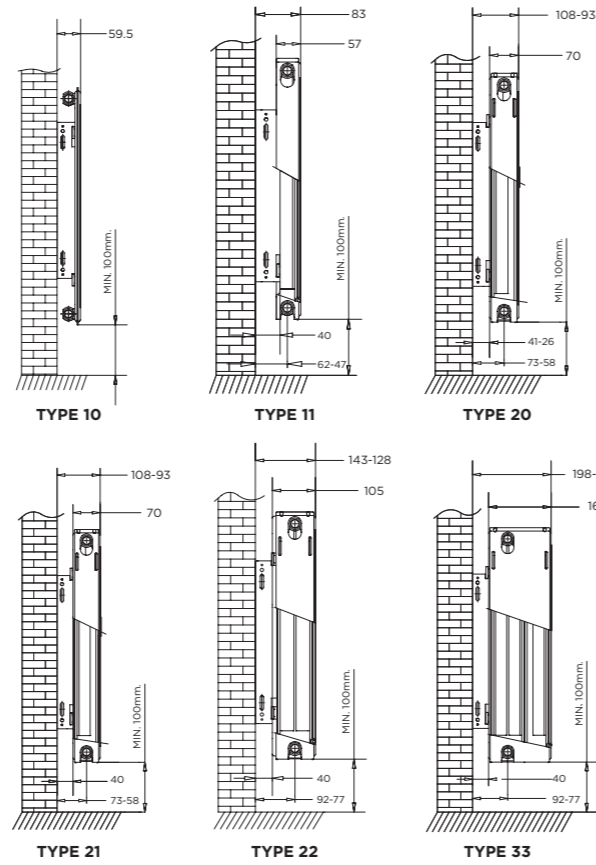

Figure 3
Warmhaus radiators are installed by using dual brackets (Figure 3) as below:
- In cases where the distance between the upper side of radiator and the window side is too narrow ( less than 90% of the depth for radiators in length of 500 mm and less than 75% of the depth for radiators in length of 300 mm), heat efficiency of radiators reduces (see Figure 3).